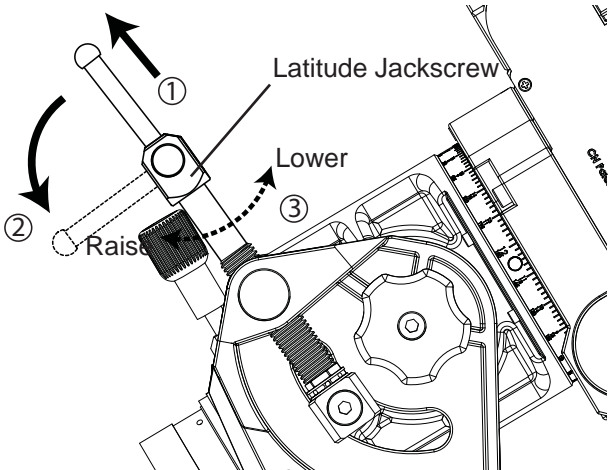
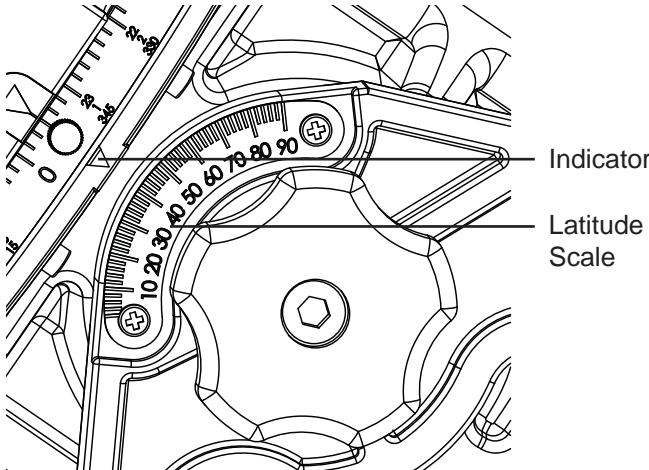

Fig. 2.3b
Fig. 2.3c
2. Pull out the handle stowed in the latitude jackscrew (Fig. 2.3b), and use it to turn the jack screw to set the R.A. axis's elevation to a specified angle by referring to the latitude scale on the left side of the mount. (Fig.2.3c)
3. Stow the handle into the jack screw after the adjustment. (Fig. 2.3b)